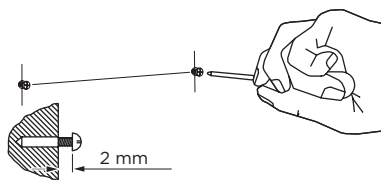

Fig.1
- Attach the upper hood mounting screws in the locations shown in Fig.2 and 3. Use the 60 mm screws and expansion plugs if attaching to masonry. Ensure that there is a 2 mm gap between the screw head and the wall – see Fig.1